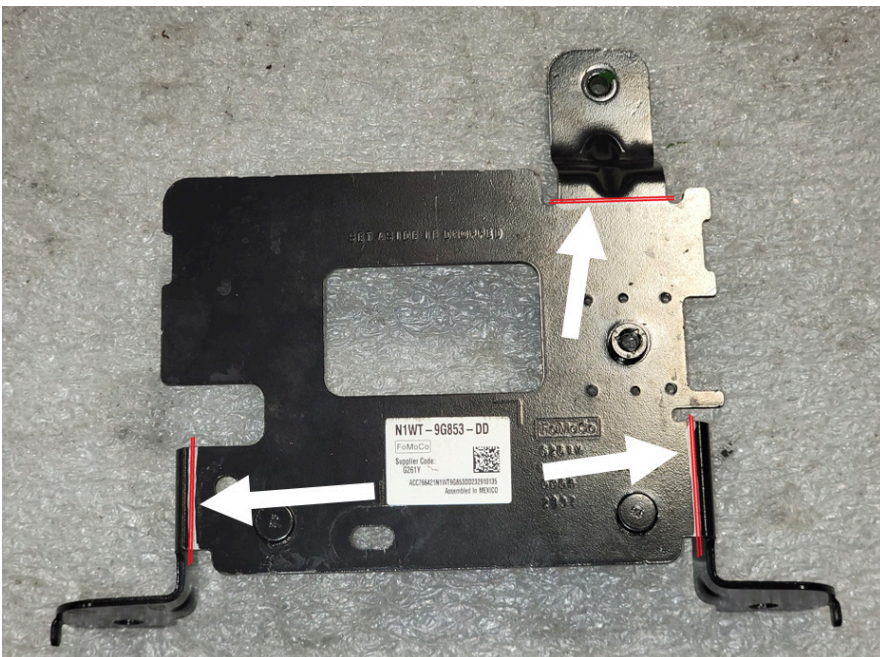

Figure 18
18. Remove the ACC sensor from its bracket and trim the bracket mounting flanges off. Figure 18.